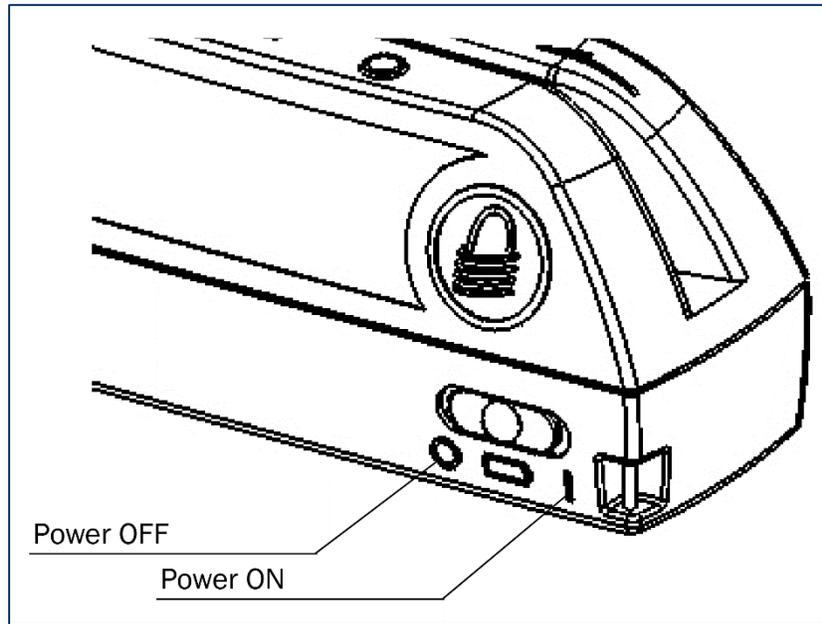

Figure 2-1 - Power Switch
- 1) Power off the device using the power switch (see **Figure 2-1**).
- 7) Power on the device using the power switch (see **Figure 2-1**). If the device is waiting to pair, it should flash the Bluetooth Status LED for up to 60 seconds. Otherwise you may test the batteries by swiping a card and making sure the LEDs flash.